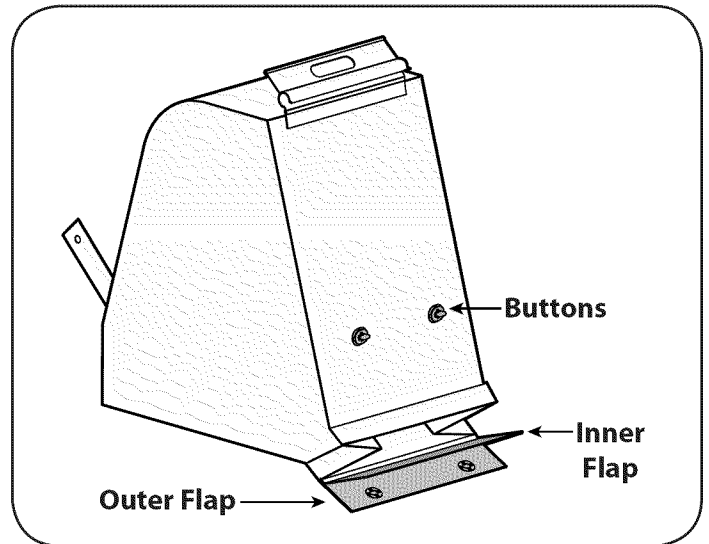

Figure 16
5. Twist the two buttons on the back of the bag to unlock and empty contents. See Figure 16. Hold bag handle and bag clip while emptying the contents.
7. Fold outer flap over inner flap and insert buttons on the bag through metal outlets. See Figure 16.